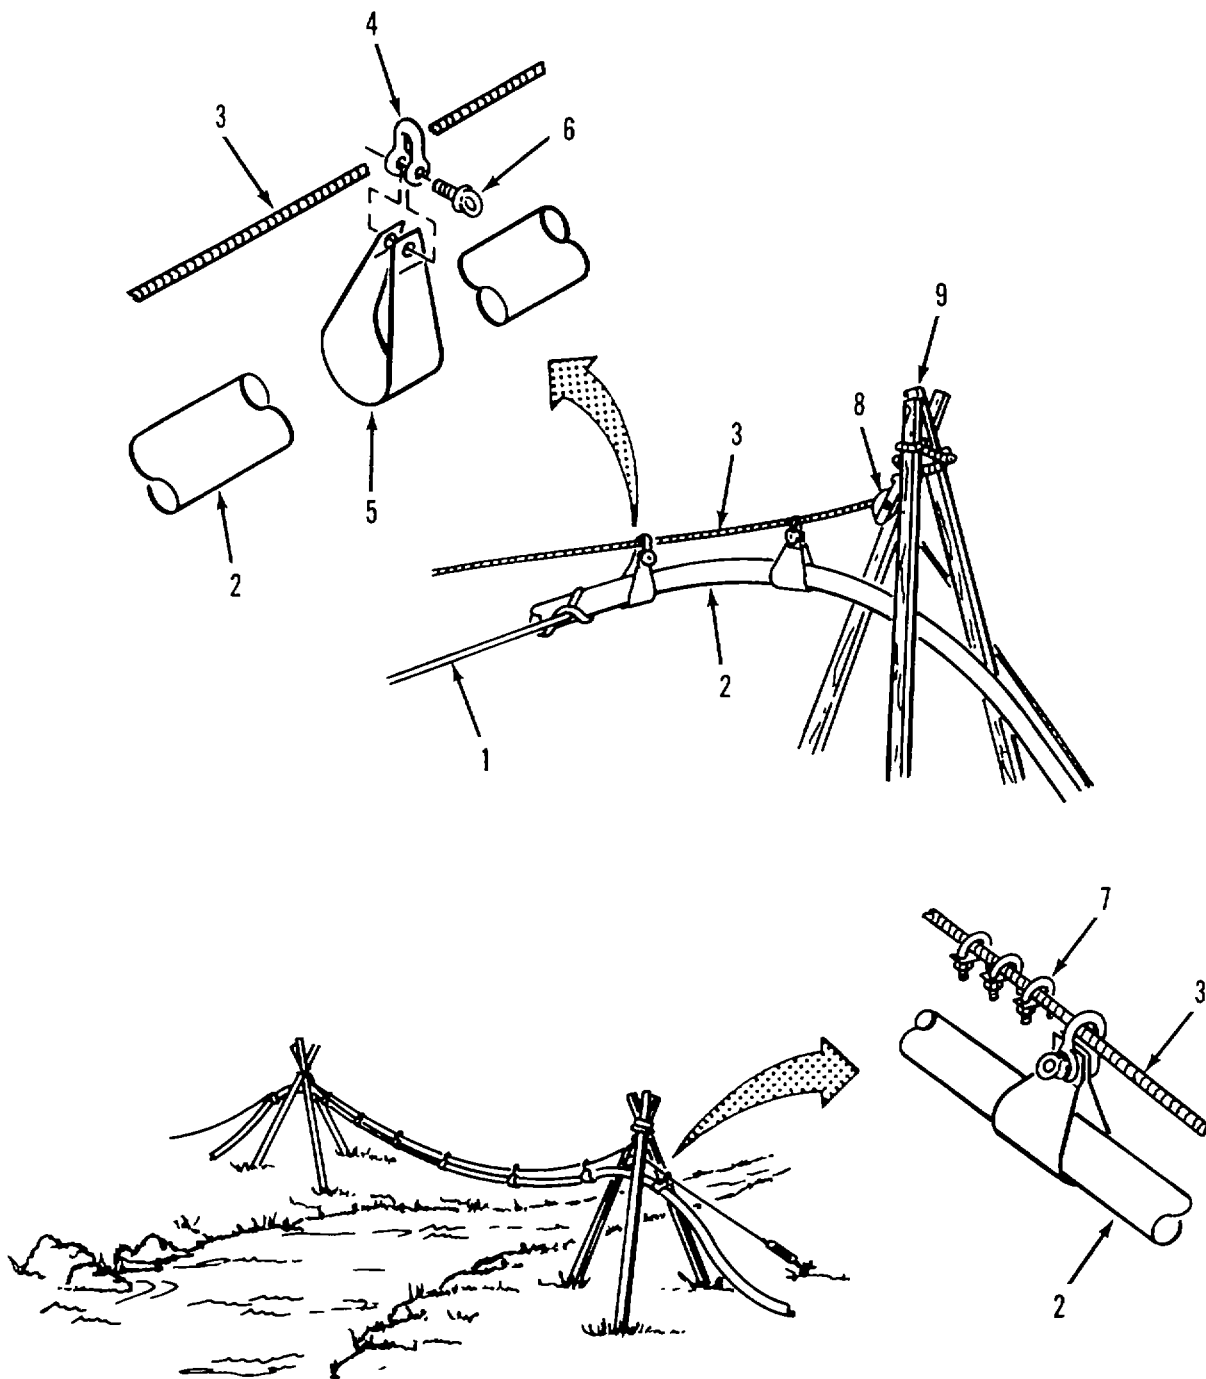

Figure 2-33. Lowering Hoseline.
*Lowering Hoseline Refer to figure 2-33.*
- (1) Disconnect suspended hose (2) from upline and downline hose segments by removing coupling clamps (para 2-1 le). Allow suspended hose to drain.
- (2) Remove three clamps (7) securing shackles (4) to end of wire rope (3). Repeat for other end of suspended hose (2).
- (3) Pull suspended hose (2) along wire rope (3) to upline tripod (9) until shackle (4) contacts tackle block (8).
- (4) While supporting saddle (5) and hose (2), remove bolt (6) from shackle (4).
- (5) Lower hose (2) and remove saddle (5) from hose.
- (6) Remove shackle (4) from wire rope (3).
- (7) Repeat steps (3) through (6) until suspended hose is pulled from wire rope (3) and all saddles (5) are removed.
- (8) Untie manila rope (1) from leading end of hose (2).